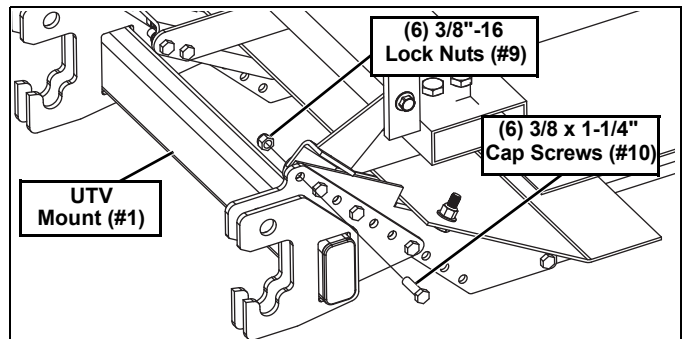

Figure 6
- Loosely secure the UTV Mount (#1) to both Front Brackets (#2 & 3) using (6) 3/8"-16 x 1-1/4" Cap Screws (#10) and (6) 3/8"-16 Lock Nuts (#9). (See Figure 6.)